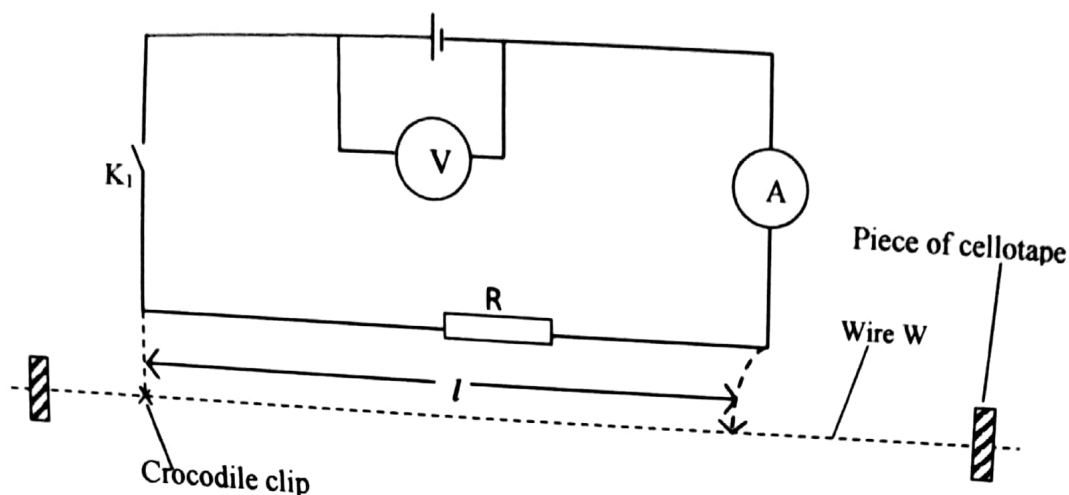

Fig. 6
- Replace R with wire W provided as shown in Fig.6 using the dotted lines.